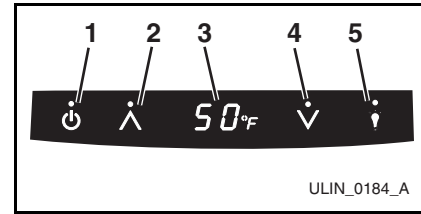

Figure 3
To turn the unit on or off, touch and hold the POWER icon (**Figure 3, 1**) on the display panel for approximately five seconds until the °F symbol flashes and release.
- The display (**Figure 3, 3**) will show the unit set-point temperature when the unit is on and will show OFF when the unit is off.
The LIGHT icon (**Figure 3, 5**) on the control panel is used to change the lighting functions.
1. Touch and hold the LIGHT icon (**Figure 3, 5**) for ten seconds and release (the °F symbol will flash briefly at the end of the five second period).
2. The interior light and control display (**Figure 3, 3**) will go dark.
1. Touch and release the LIGHT icon (**Figure 3, 5**) to switch from door-operated lighting control to continuous lighting (the °F symbol will flash briefly after the LIGHT icon is pressed).